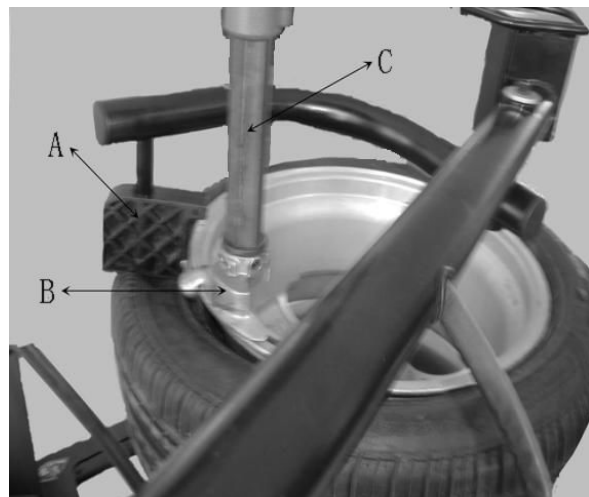

Fig 7-12
7.2.3 Use the press(fig7-12 A) to press down the tire section by section rim detached from the mouth and use the brush to spread the lubricant on edge of the lip. Position the demount tool head(fig7-12 B) in the demount position. Place the press beside of the demount tool to press down the lip and insert the crowbar below the demount tool in between the rim and lip(fig7-13), Lift up the press and move it to the position opposite to the demount tool and press the lip into the tire detach groove and then rotate the crowbar to lift the lip onto the demount tool (fig7-14) . Rotate the turntable to detach the upper lip.